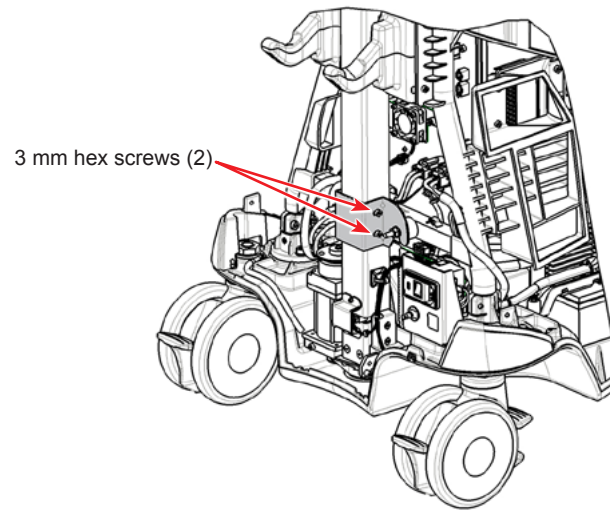

Figure 3-33 IV Pole Assembly Replacement
- Before installing the IV Pole, loosen the two 3 mm hex screws identified in Figure 3-33.
- After the IV Pole is replaced, fully tighten the two 3 mm hex screws identified in Figure 3-33.